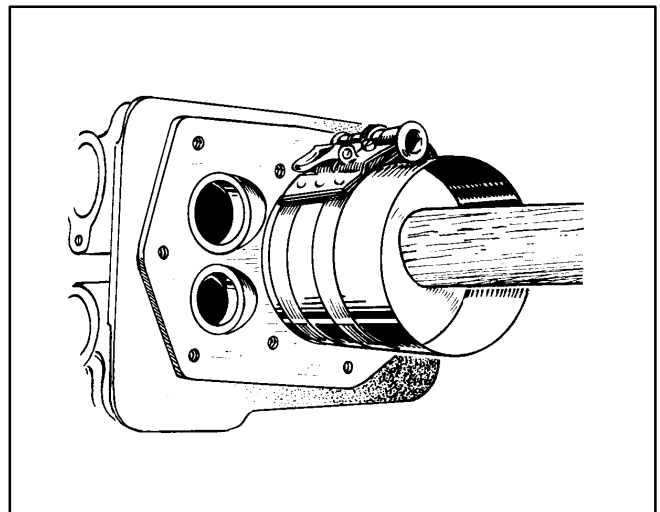

FIGURE 50. INSERTING PISTON
3. Lubricate the Number 1 piston assembly and cylinder with engine oil. Compress the rings with a ring compressor as shown in Figure 50. Install the bearing insert in the piston rod.
5. Tap the piston into the bore with the handle end of the hammer until the connecting rod is seated on the crankshaft journal (Figure 50). If the crankshaft has been reground and/or new rods are being installed, check the bearing clearance with Plasti-gage as instructed below under Rod Bearing Clearance.